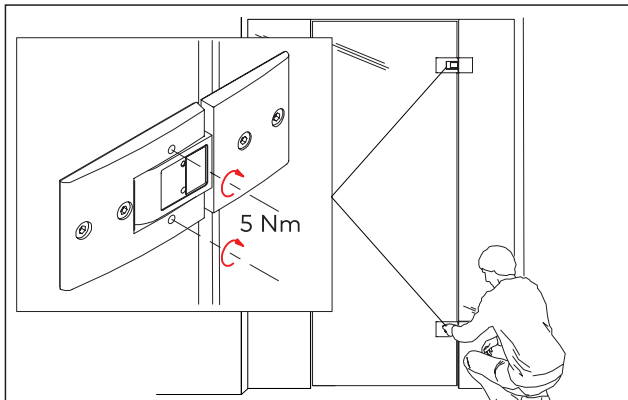

Fig. 35 Position of the screws
3. Tighten all screws (2 x upper hinge and 2 x lower hinge). The tightening torque should be **5 Nm (Fig. 35)!**